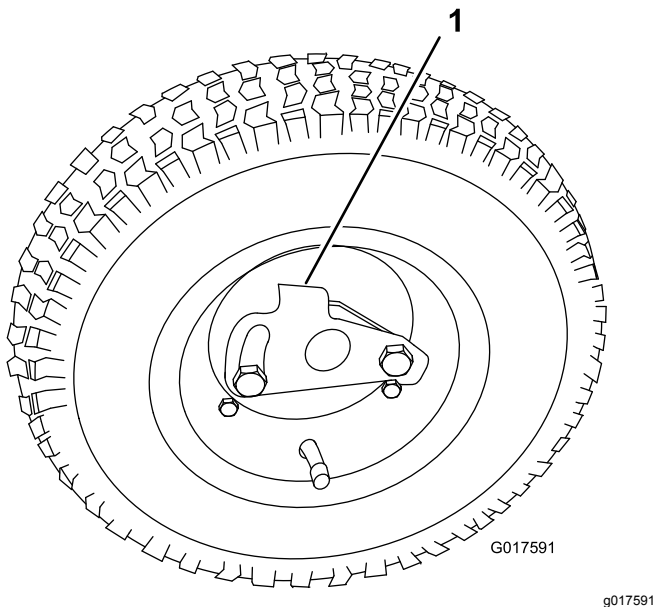

Figure 10
3. Pivot the wheel locking clip away from center of the wheel, allowing it to slide farther onto the axle (Figure 10).